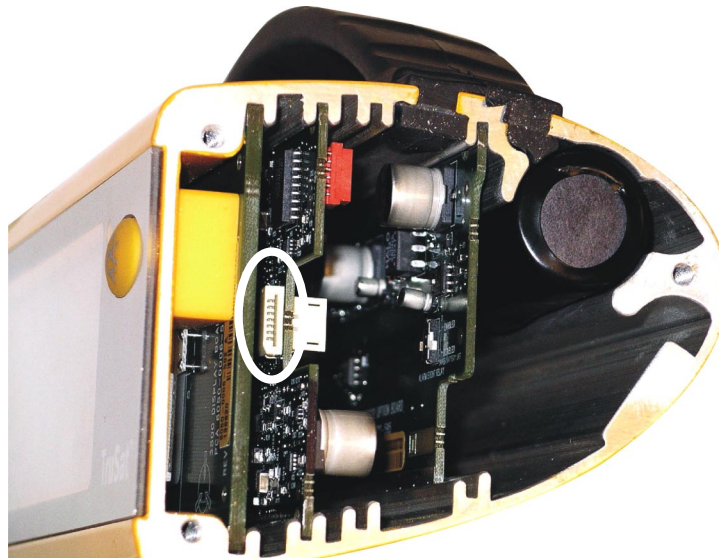

Figure 4-2. Software upgrade connector on System board
4. Locate the software upgrade connector on the System board. It is circled in Figure 4-2.